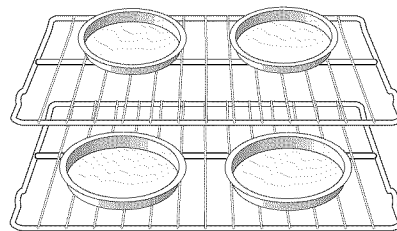
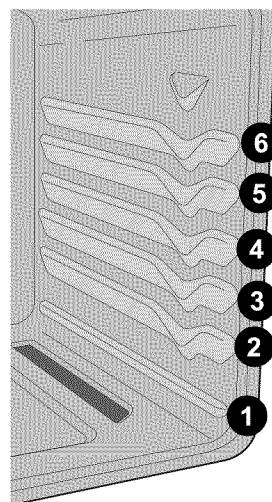

Figure 24: Baking on multiple levels
Figure 25: Oven rack positions
- For best results when baking cakes or cookies using two oven racks, place racks in positions 3 and 5 (See Figure 25) and position bakeware as shown in Figure 24. Allow at least 2 inches (5 cm) of space between bakeware for proper air circulation.